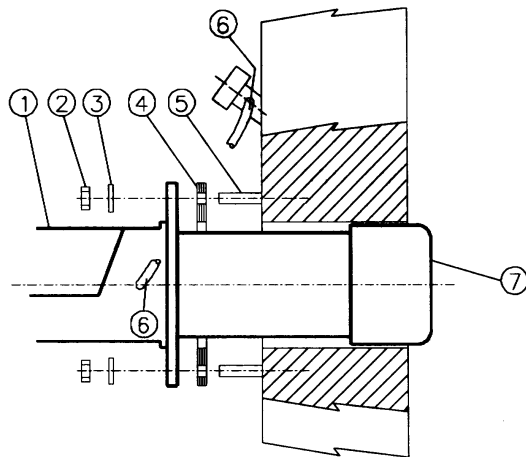

Fig. 5
- 2 screw the studbolts (5) on the boiler door, according to the drilling plate (see paragraph "Overall dimensions");
- 8 fix the burner to the stud bolts, by means of the fixing nuts, according to Fig. 5.